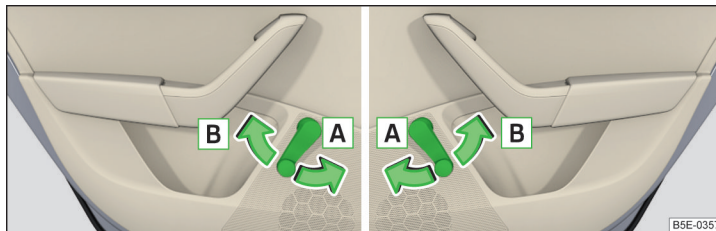

Fig. 58 **Window Operation: Left/right**
- To **open**, turn the crank in the direction of arrow  » Fig. 58.